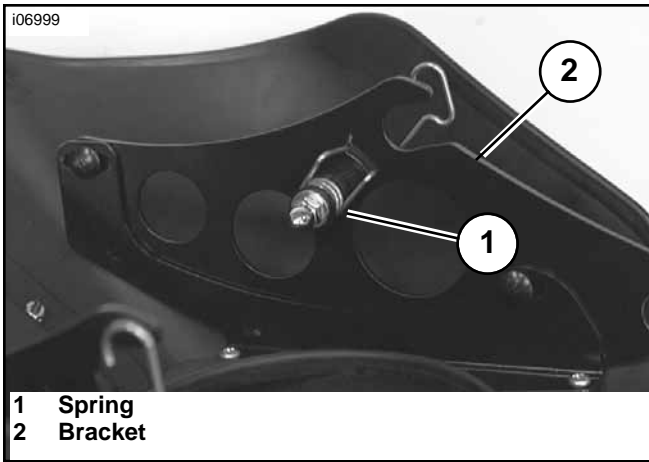

Figure 2. Installed spring
- Carefully apply one to two drops of adhesive at areas indicated (2) and to the gasket ends. Glue the ends together. With the gasket installed on the fairing, carefully lift the inside edge of the gasket and apply one drop of adhesive to the gasket and non-painted surface of the fairing as shown.
- Attach left and right mounting brackets (14, 15) to quarter fairing (3) with self tapping screws (10).
- See Figures 2, 3 and Service Parts Illustration. Attach springs (1) to brackets (2) as shown.